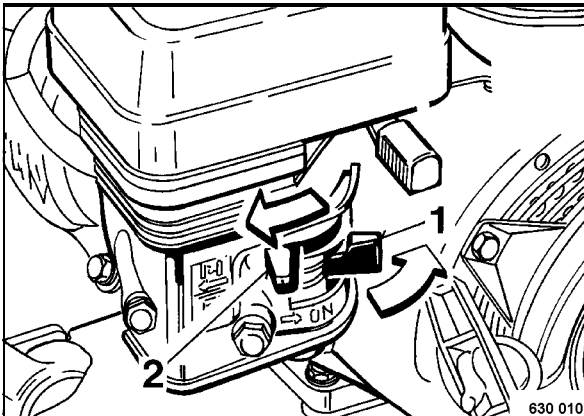

Fig. 8
- Open fuel cock 1 (Fig. 8) completely by turning in direction of arrow.
- Close the choke completely by shifting lever (2) in direction of arrow.